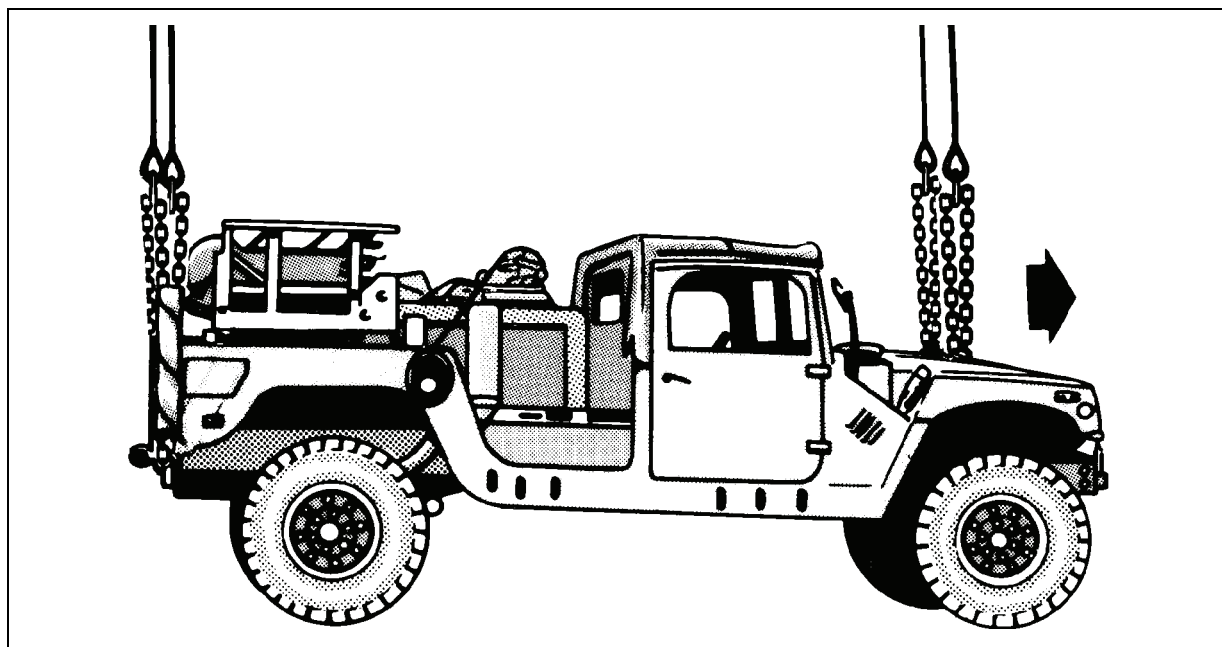

Figure 2-12. M1037/M1097 Shelter Carrier with G15840 Smoke Generator Set, M157/M157A1E1
- **Rigging.** Rig the load according to the steps in Figure 2-12.